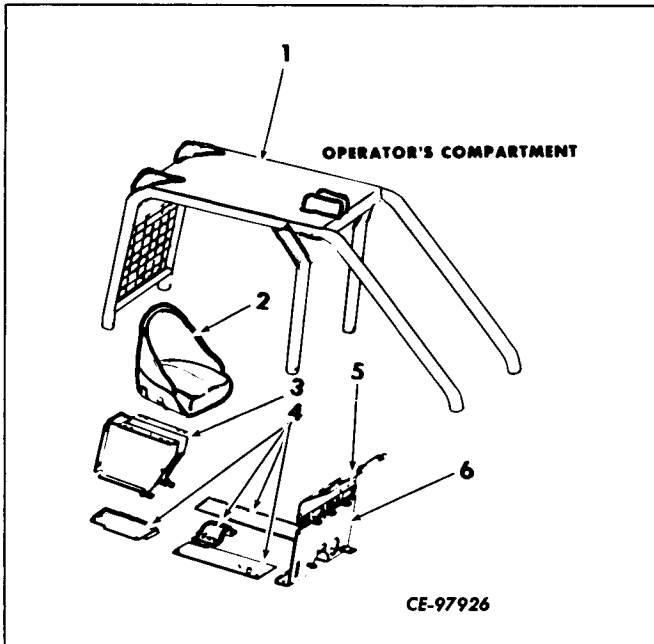

Figure 1-5
The Operator's Compartment group is composed of the canopy (1, Fig. 1-5), instrument panel (5), floorboards (4), seat (2), seat base (3) and firewall panel (6).